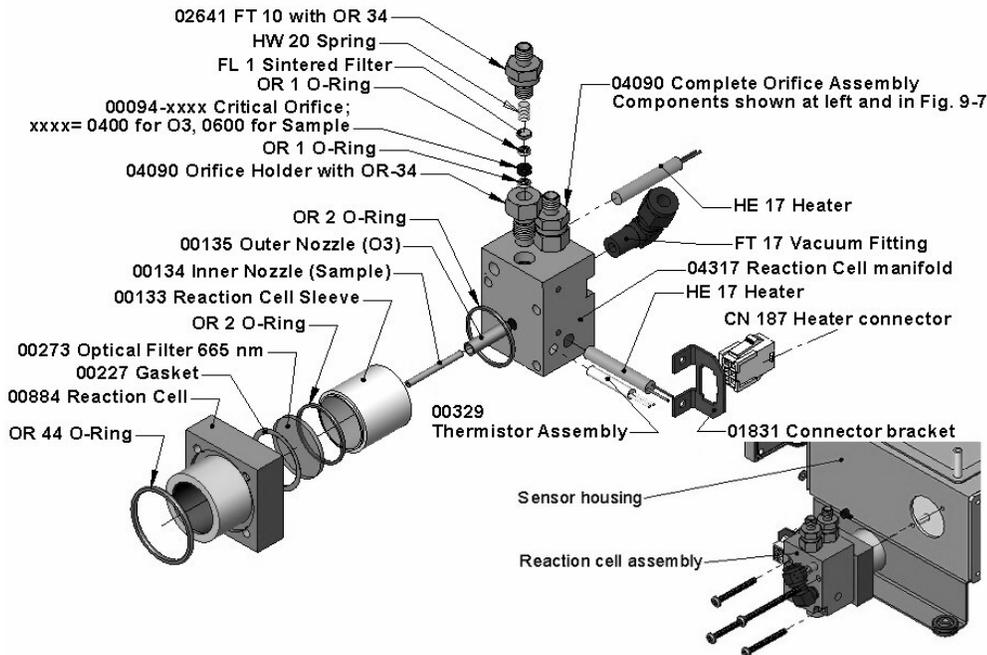
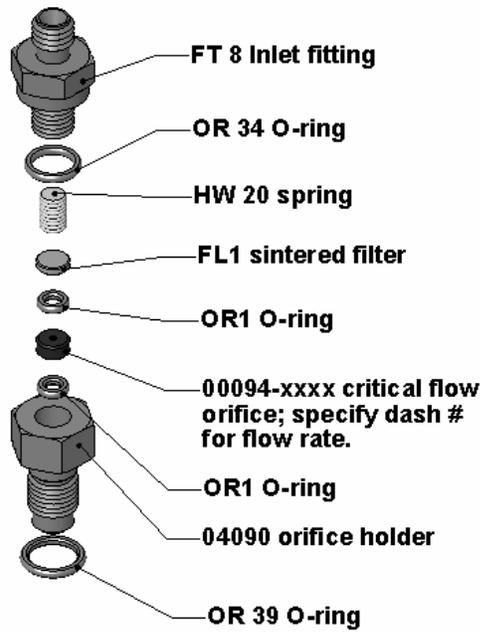

Figure 9-6: Reaction Cell Assembly
Figure 9-7: Critical Flow Orifice Assembly
- Turn off the instrument power and vacuum pump. Refer to the Figure 9-6 for the following procedure.
- Remove four screws holding the reaction cell to the PMT housing and lift the cell and manifold out as shown in the inset of Figure 9-6.
There are several critical flow orifices installed in the M9110E, Figure 9-6 shows one of the two most important orifice assemblies, located on the reaction cell. Refer to Section 10.2.9 for a detailed description on functionality and locations. Despite the fact that these flow restrictors are protected by sintered stainless steel filters, they can, on occasion, clog up, particularly if the instrument is operated without sample filter or in an environment with very fine, sub-micron particle-size dust.
- Turn off power to the instrument and vacuum pump. Remove the analyzer cover and locate the reaction cell (Figure 9-6, Figure 11-7 and Figure 3-7).
- For orifices on the reaction cell (Figure 9-6): Unscrew the orifice holder with a 9/16" wrench. This part holds all components of the critical flow assembly as shown in Figure 9-7. Appendix B contains a list of spare part numbers.
- For orifices in the vacuum manifold: the assembly is similar to the one shown in Figure 9-7, but without the orifice holder, part number 04090, and bottom O-ring OR34 and with an NPT fitting in place of the FT 10 fitting. After taking off the connecting tube, unscrew the NPT fitting.
- Re-assemble the parts as shown in Figure 9-7 and re-connect them to the reaction cell manifold or the vacuum manifold.